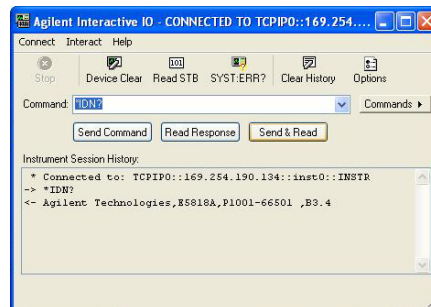

Figure 13 *IDN? Command Example in Interactive IO
- 2 Open the *Commands* menu and select a command. The example in below (Figure 13) shows a *IDN? command selected.